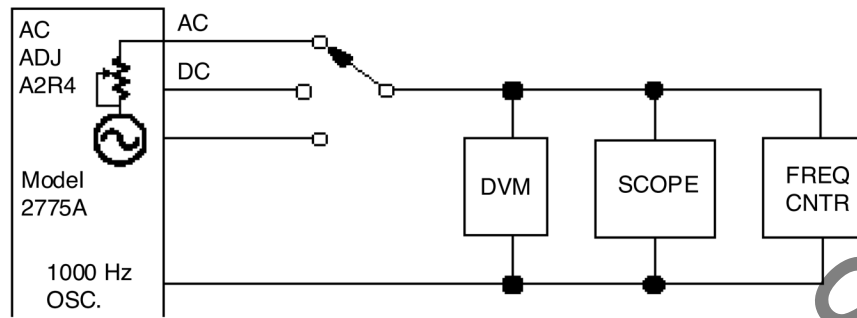

FIGURE 5-5: OUTPUT CALIBRATION
- A. Set INPUT LO switch to GND, FUNCTION switch to OUT CAL and monitor the AC OUTPUT (J12) with a frequency counter to verify a frequency between 950 and 1050 Hz. Monitor the DC OUTPUT (J14) for 10.0 Vdc  $\pm$  150 mVdc (see figure 5-5).